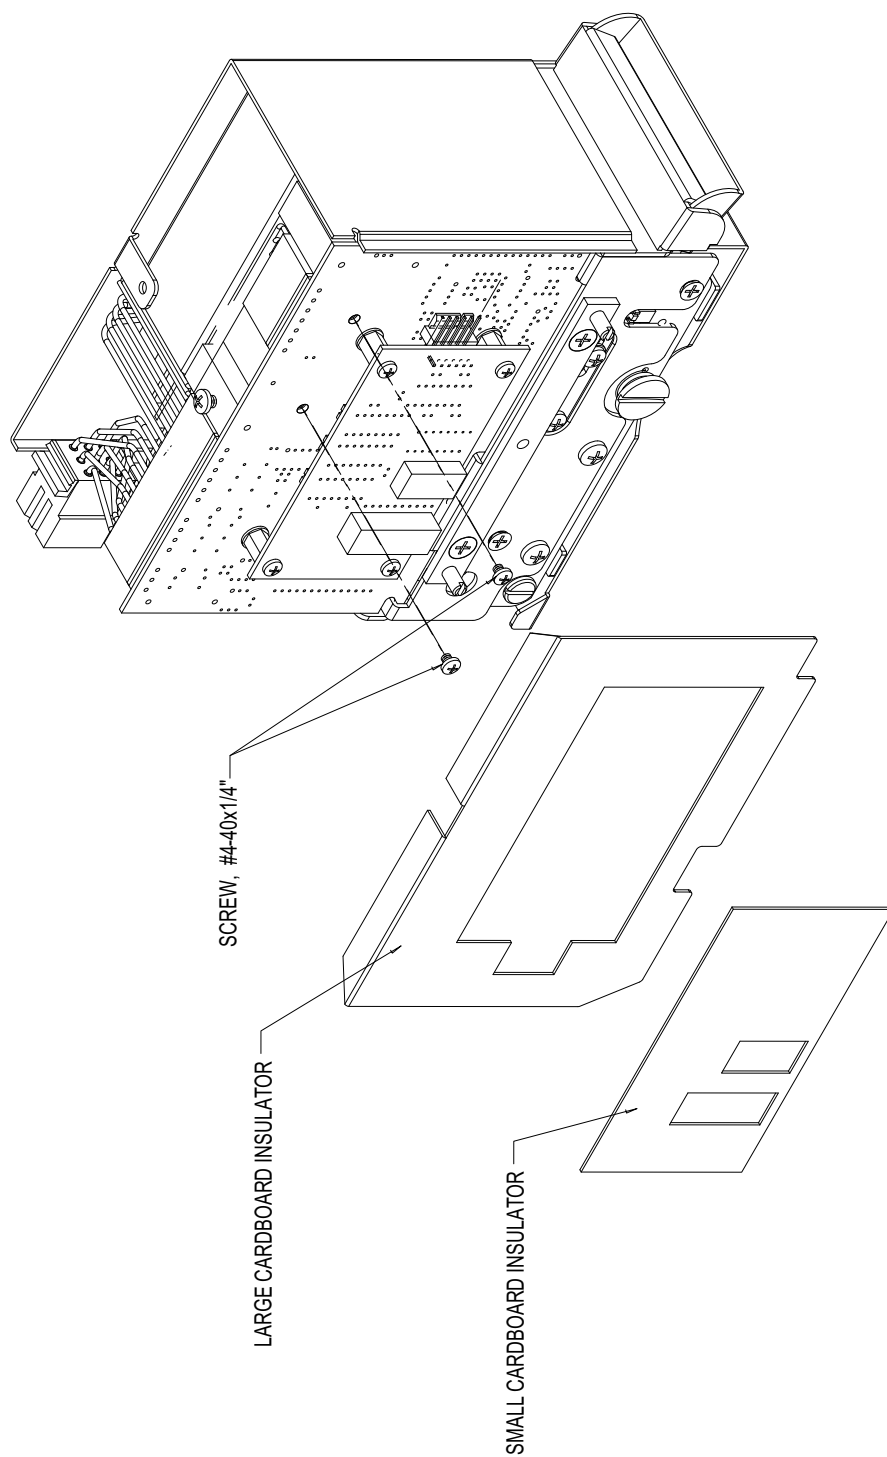

Figure 2
5. Stand the validator upright again. Refer to Figures 2 and 5 for the next four steps.